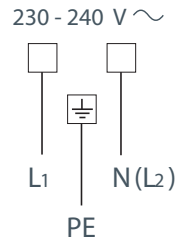

Fig. 13 Connection diagram
- 3 Connect mains and earth wires to their respective terminals in accordance with the connection diagram (Fig.13).